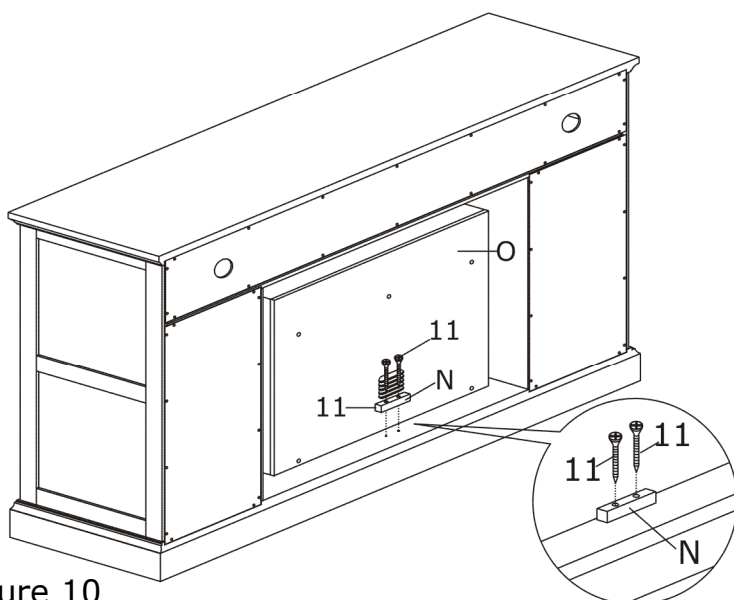

Figure 10
Step 1. Insert the firebox from back of fireplace. Make sure firebox is pressed tightly against the assembled unit. Attach Wood Holder (N) on the inside of firebox. Insert 2pcs Screw For Holder (11) through predrilled Wood holes on Wood Holder (N) and tighten into corresponding holes on back of firebox. As shown on Figure 10.
(11)		Quantity of 2